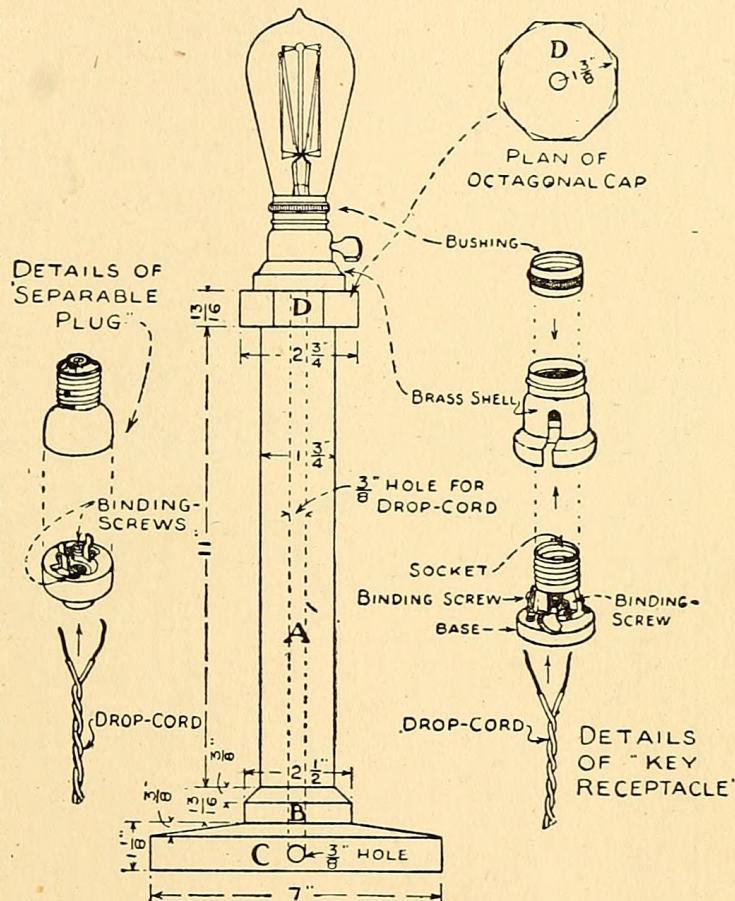

FIG. 146. — Details of Electric Lamp shown in Fig. 142.
**An Electric Lamp** with a wooden stand and base is very simple to make. Figure 142 shows an attractive design for a desk or table lamp, fitted with one of the perforated brass lamp-shades described in Chapter XIII. The stand is made in four pieces (*A*, *B*, *C*, and *D*, Fig. 146). After cutting these to the dimensions given, and